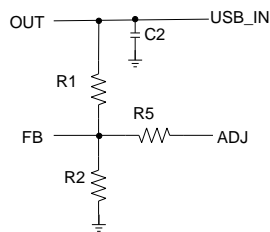

Figure 5: ADJ Configuration
Figure 5 shows the typical schematic for ADJ usage. The ADJ pin sink current capability is 500uA. The feedback current through R1 must remain below 500uA. R1 can be calculated with Equation (1):